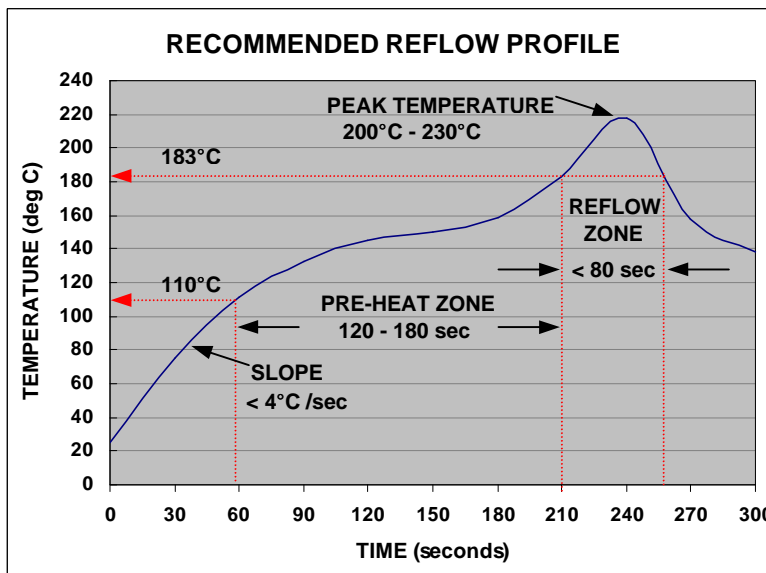

Figure 47. Recommended Reflow Profile.
1. Refer to the recommended Reflow Profile per Figure 47. Profile parameters exceeding the recommended maximums may result to permanent damage to the module.